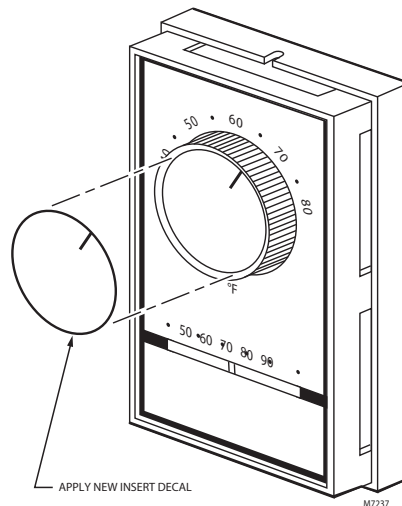

Fig. 6. Thermostat recalibration.
4. Carefully align the indicator mark on the decal with the correct temperature setting number on the cover. See Fig. 6.